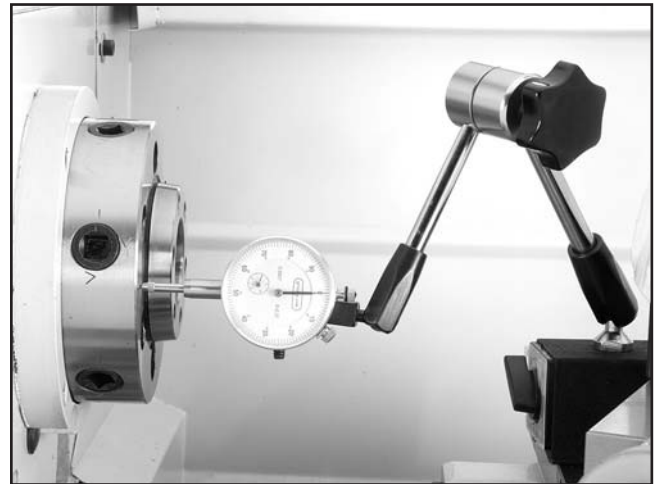

Figure 92. Dial indicator setup.
- Place a dial indicator on the cross slide and move the carriage toward the headstock until the contact point of the indicator touches the spindle face (**Figure 92**).